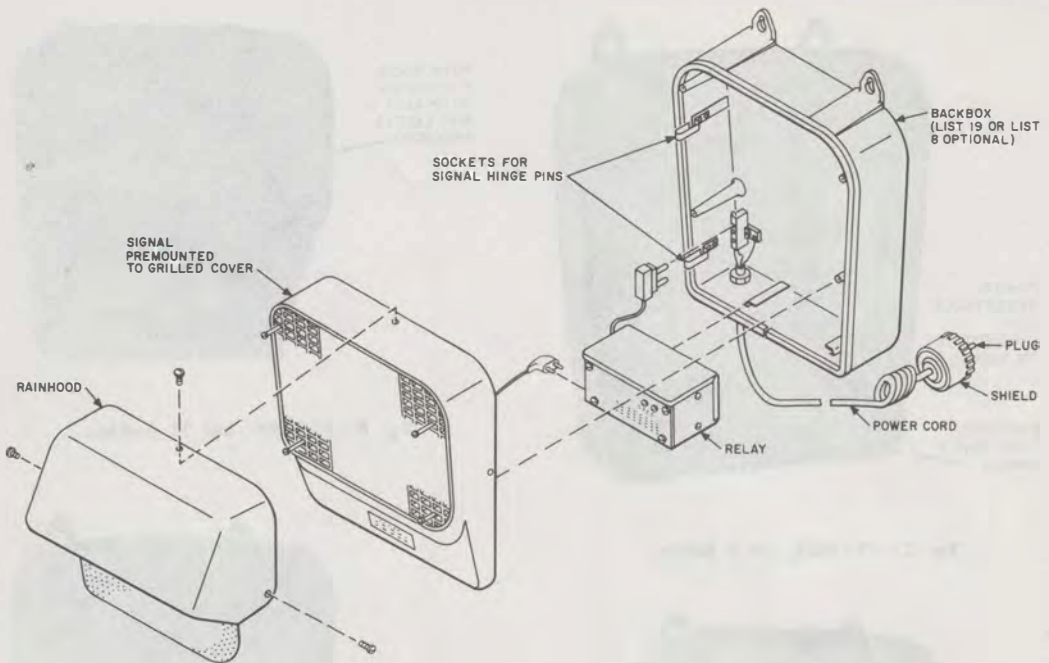

Fig. 1—Exploded View of Assembled Signal Using Relay
- (a) A typical signal (Fig. 1) includes a backbox, a signal premounted to a grilled cover, and a control relay.
### 3.07 Backbox, KS-16301 (Fig. 1, 2, 3, 4, and 5):
- Mount relay in the horizontal position on mounts provided in backbox (Fig. 1).
- Engage the two pins on front cover to form a hinge with the two sockets which emerge from backbox (Fig. 1)
- Fasten the signal to the backbox with four machine screws which are furnished (Fig. 1).
- Attach with furnished screws to the signal unit (Fig. 1).